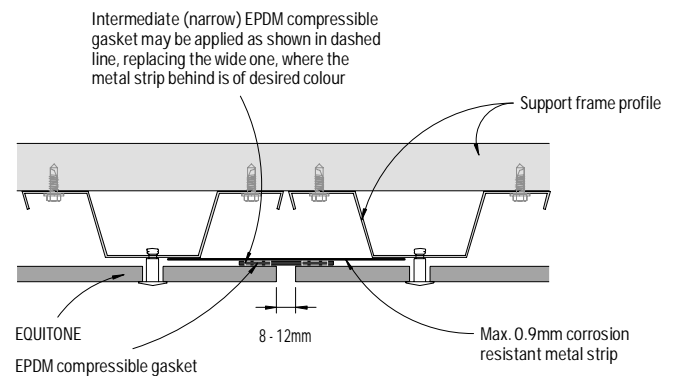

Figure 6: Vertical joint - Detail 2
2) In Figure 6 & 7, the metal strip should be fixed ONLY to one of the battens (either left or right) where allowance for horizontal and/or vertical movement of the cladding frame is required.